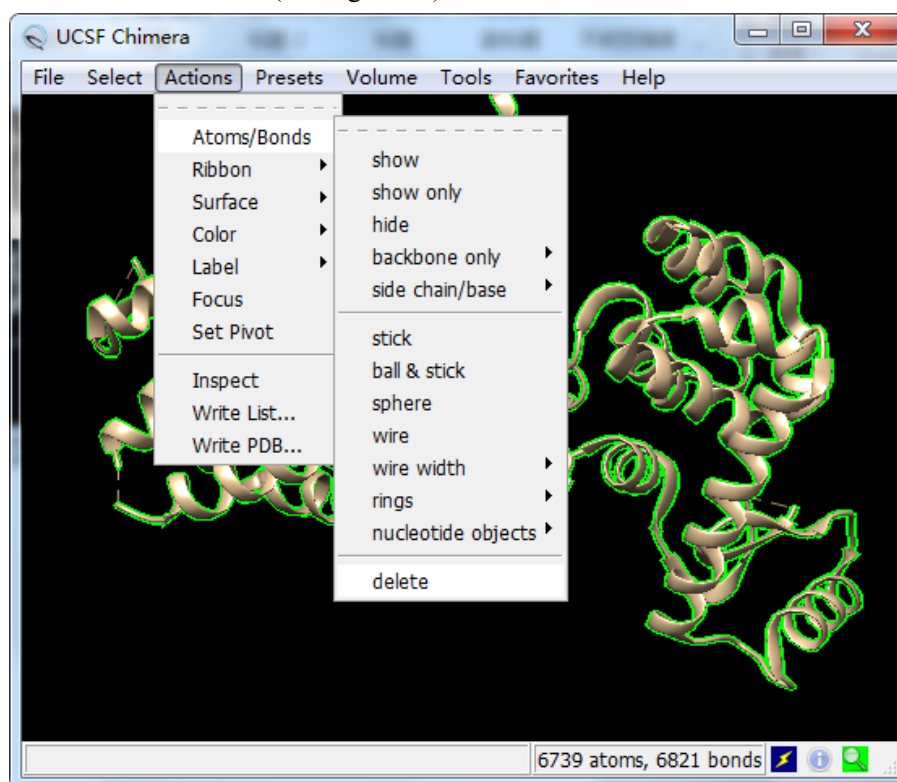

Figure 12. Deleting receptor.
3. Then delete invert selection (see Figure 12):